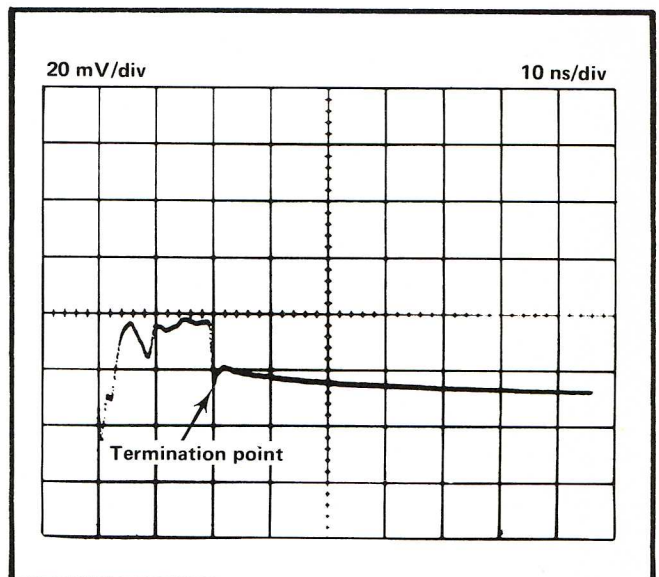

Fig. 2-4. Display with Test Line terminated and increased vertical deflection of the oscilloscope.
15. Terminate the end of the Test Line in 50 Ω. Change the Type 3S2 mV/Div to 20 and note the point of termination on the display. See Fig. 2-4.